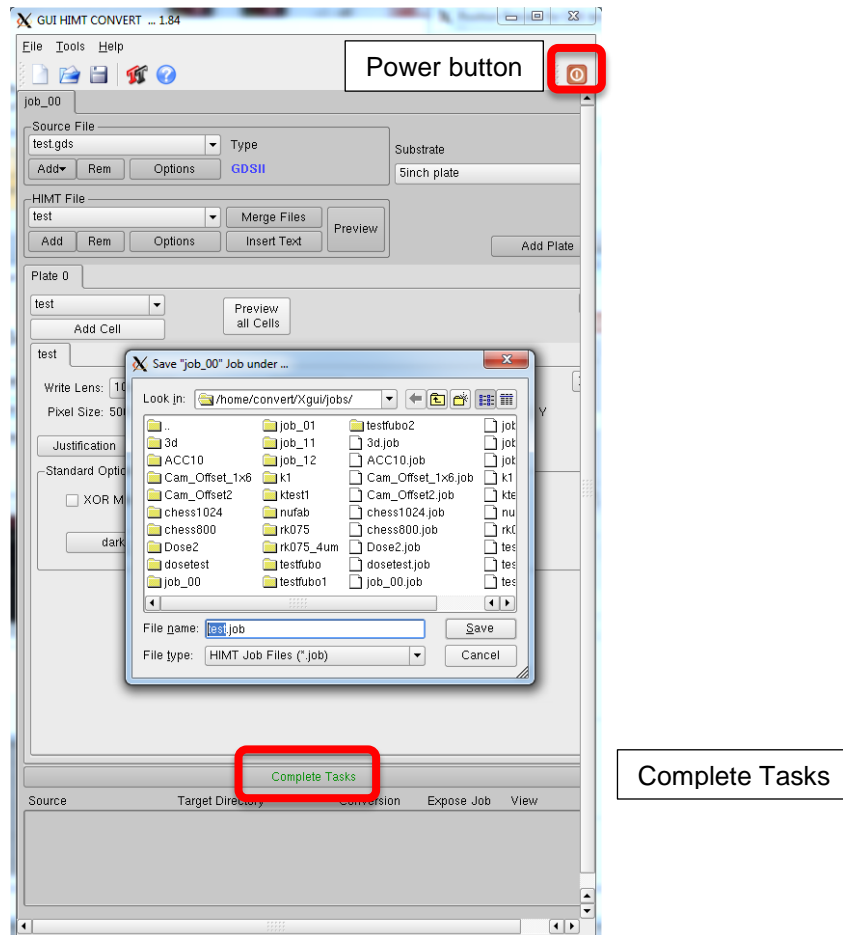

Figure 13: Press the green “Complete tasks” button.
9. Once all of the adjustments are finished, press the green ‘Complete Tasks’ button at the bottom of the GUI HIMT Convert menu screen (Figure 13). Then call up the job file (it should have the same name) and click ‘Save’.
1. Once this is done, the job should appear in the menu below the complete tasks button. Assuming the job is there, the next step is to press the complete exposure jobs button. This will begin the conversion process, which can often take 20-30 minutes for a 5” pattern. There is a status bar that will increment across the screen. Once the status bar reaches 50%, it will immediately jump to 100% and the conversion process will be complete. Once the conversion job is completed, press the finish button at the very bottom of the final status screen and then press the red ‘power’ button in the top right of the HIMT menu (Figure 13) to exit the conversion toolset. The conversion from the mask design file type (GDS etc.) is now complete, and you have created the expose.cfg file that will be used later.